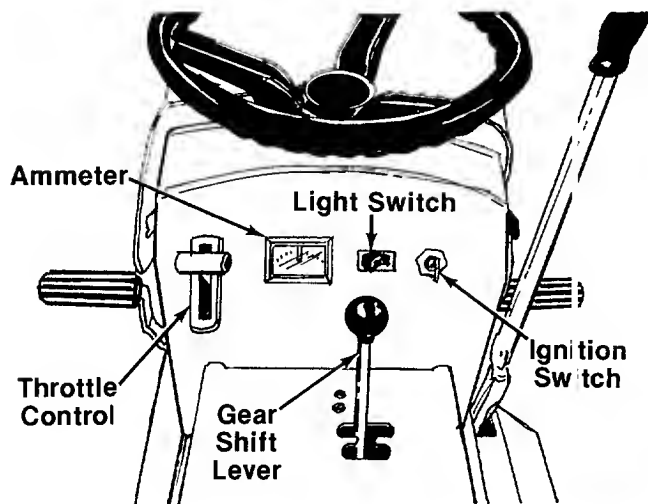

FIGURE 9.
The throttle control is used to regulate the engine speed and to activate the choke on the engine. To get maximum efficiency from cutting, the throttle should be in the FAST position when operating the mower. Pushing the throttle all the way forward past FAST, will choke the engine. See figure 9.
The gear shift lever is used to shift into one of the forward gears, "NEUTRAL" or "REVERSE." See figure 9.
Turn the key to the "START" position to start the engine. When the engine is running, let the key return to the "ON" position. To stop the engine, turn the key to the left to the "OFF" position and remove it to prevent accidental starting. See figure 9.
Push the light switch to turn on the lights. The lights will only operate when the engine is running. See figure 9.
The ammeter registers the rate of battery charge or discharge. The ammeter will register on the discharging side when starting the engine. It should register on the opposite side (charging) when the engine is running in the fast position until the battery is completely charged. With a fully charged battery or with the engine idling, the ammeter will not show a charge. See figure 9.
2. Depress the brake pedal and set the parking brake lock. See figure 9.
5. Set the throttle control in the CHOKE position. See figure 9.
6. Turn the ignition key to the "START" position. When the engine is running, let the key return to the "ON" position. See figure 9.